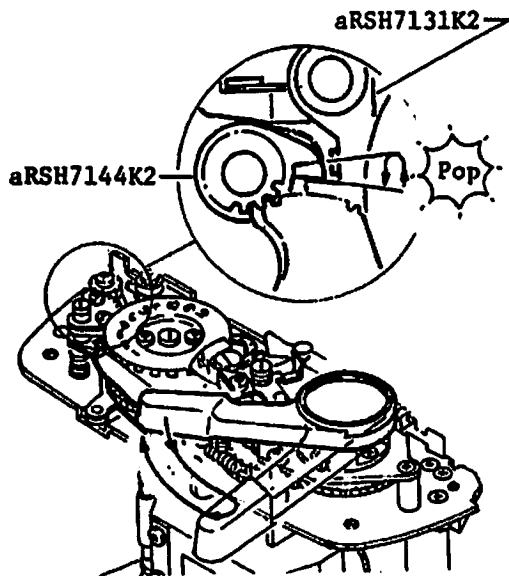

Fig. 122
- 2) Confirm the sound "POP" caused by the above-mentioned work of Hook and Pawl at every winding of the Lever for about 90° as shown in Fig. 122.